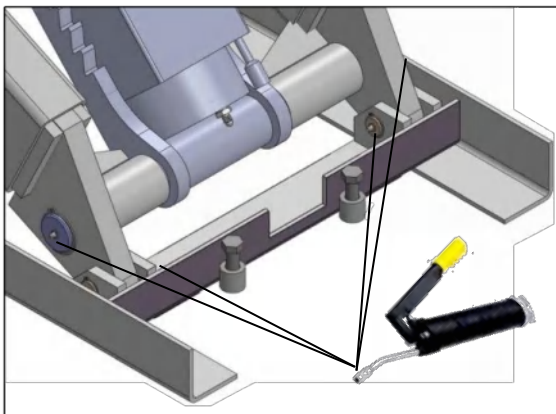

Fig.35
5. Lubricate all moving parts, see fig 35~38